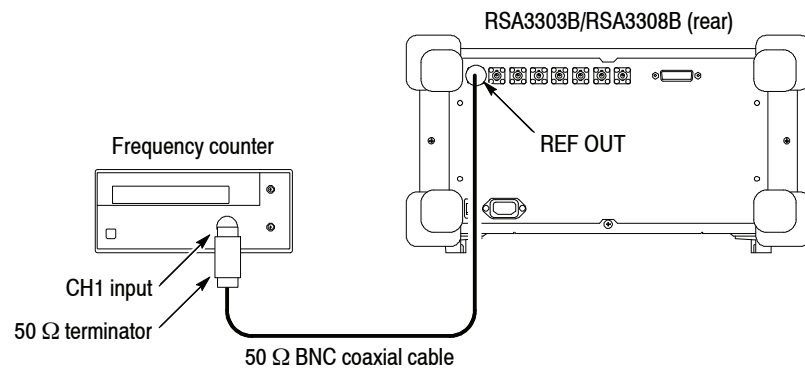

Figure 4-12: Initial test hookup
- b. *Hook up the frequency counter:* Connect **REF OUT** on the rear panel of the analyzer through a 50 Ω precision coaxial cable and a 50 Ω precision terminator to Channel 1 of the counter. See Figure 4-12.